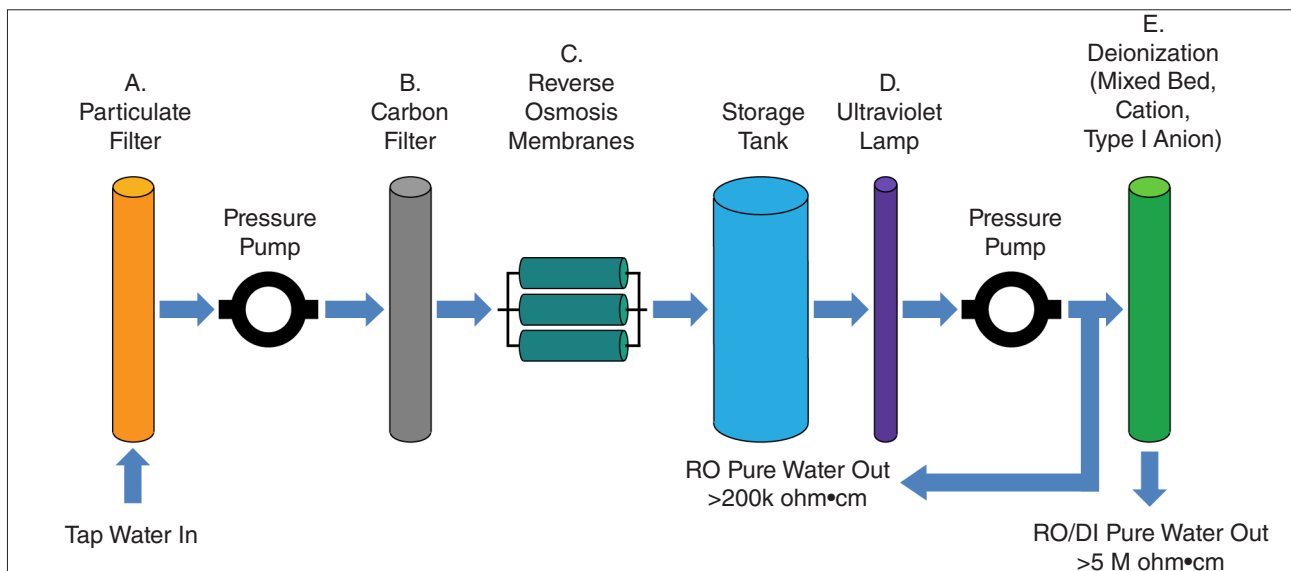

Figure 6.6a: Reverse Osmosis / Deionized water system.
- The reverse osmosis / deionized (RO/DI) water system shown in Figure 6.6a and Figure 6.6b produces water pure enough for spray systems.
- Figure 6.6a shows an effective Reverse Osmosis / Deionized Water System with Anion Type I Resin for spray water silica removal.